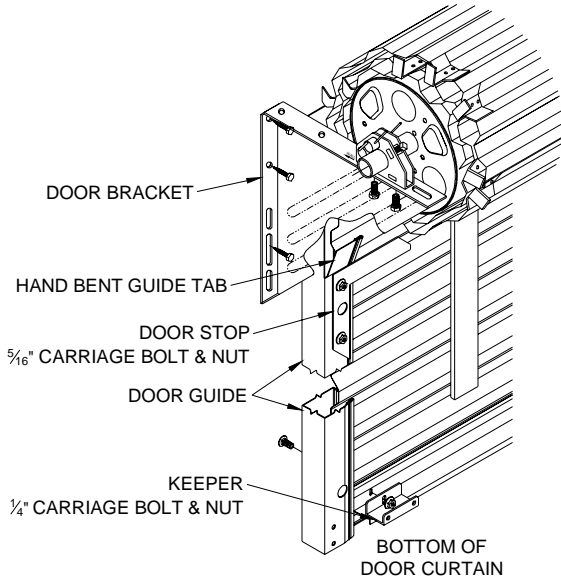

Figure 8.
8.3 Attach the two keepers to the bottom interior edge of the door with one (1) 1/4" carriage bolt and whiz nut in each keeper. (Figure 8)
8.4 Tighten door stops installed in paragraph 8.1 making certain track bolts are seated in guides. (Figure 8)